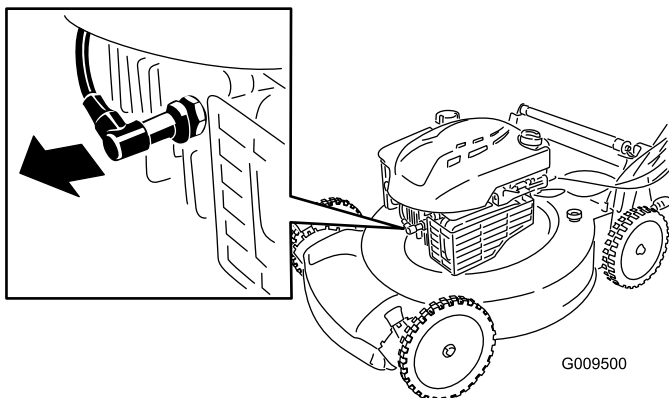

Figure 21
2. Disconnect the spark-plug wire from the spark plug (Figure 21) before performing any maintenance procedure.